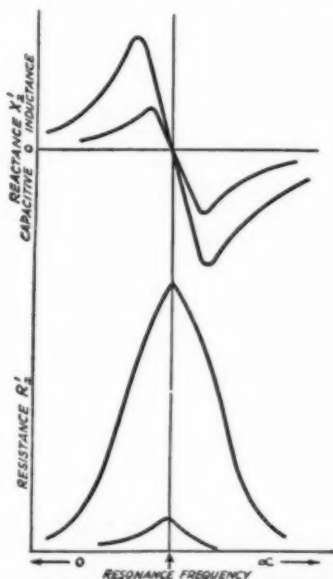

FIG. 3.—THE EFFECT UPON THE REACTANCE AND RESISTANCE OF THE SECONDARY CIRCUIT BY CHANGES IN FREQUENCY IS SHOWN
tions of this nature frequently make themselves very annoying in many radio circuits. The three cases analyzed above are probably best illustrated by means of the graph in Fig. 3. It can be clearly seen here just how any variation in frequency effects the inductance and resistance of the secondary circuit. Fig. 3 also shows the effects of coupling on the circuit's resistance and reactance. The greater the value of coupling the greater the effective resistance, and also the greater the variations in secondary inductance.
clicks in some calibrated oscillating circuit and then find that when this coil is inserted in a radio system and coupled to some other circuit that it will no longer tune over the frequency range it was designed to cover. Why this is true can be seen from a consideration of Cases (1) and (2) and an inspection of Fig. 3 for these two cases. The remedy for conditions of this nature is to either redesign the coil or to reduce the value of the coefficient of coupling. This difficulty is most frequently encountered in tuned r.f. systems, where the plate circuit of the preceding tube is coupled rather closely to the next tuned circuit